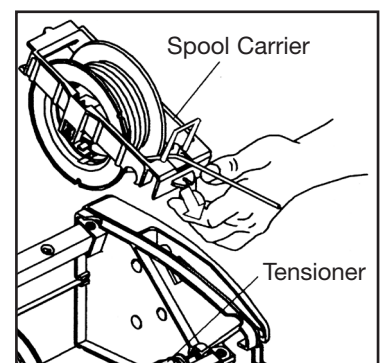

Fig 4
- Unclip the front of the Spool Carrier outwards and upwards from the front tube to remove. See **Fig 4**.